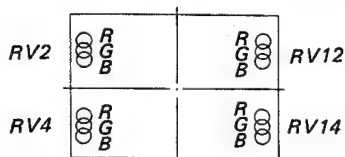

Fig. 1-17.
8. Adjust RV2, RV4 and RV12, RV14 on the DB board to coincide with the R, G and B dots as shown in Fig. 1-17.